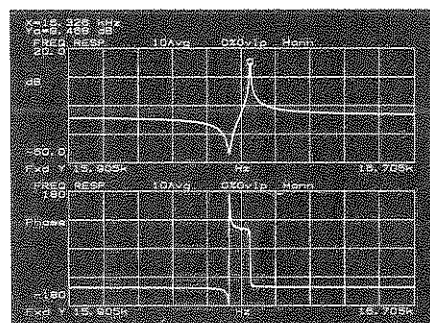

Figure 2-6
3. **Magnitude and Phase** Select the **FREQ RESP** softkey. Press the **COORD** (coordinate) key. Several trace coordinates including phase and linear magnitude are available. The **NEXT** softkey displays the next level of coordinates which includes linear or logarithmic frequency axis. An example is shown in figure 2-6.